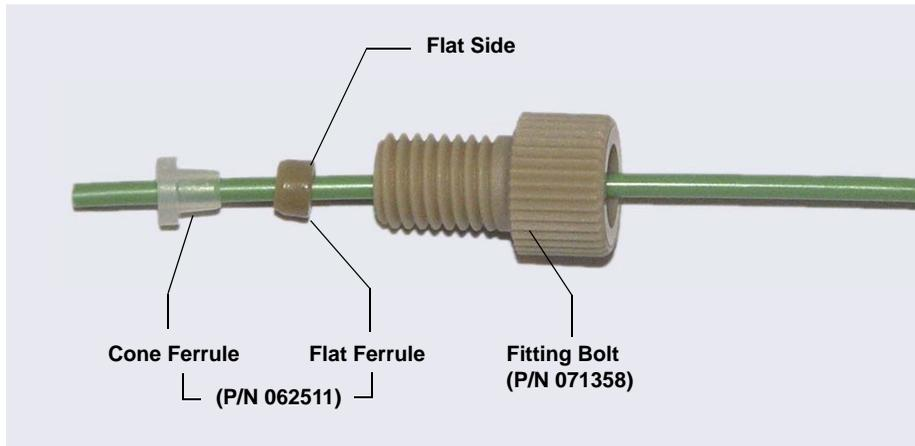

Figure 5-32. *Fitting for Waste Line*
- a. Slide the fitting bolt onto the tubing as shown in Figure 5-32.
ferrule onto the tubing with the cone toward the flat ferrule and fitting bolt (see Figure 5-32).
7. Slide the fitting bolt and two-piece ferrule onto one end of the sample transfer line (see Figure 5-32). Follow the steps below to connect the line to the needle: